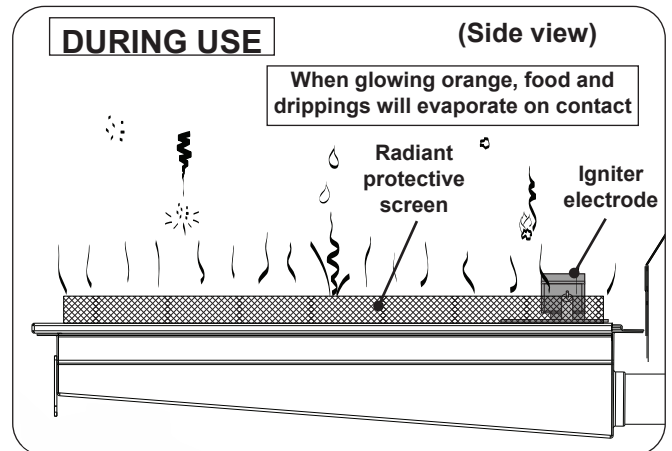

Fig. 43-3 Infrared burner - DURING USE
- **DO NOT place food on the cooking grid until the infrared burner glows orange (Fig. 43-3).** Drippings are heated and evaporate instead of sticking to and impairing burner function.